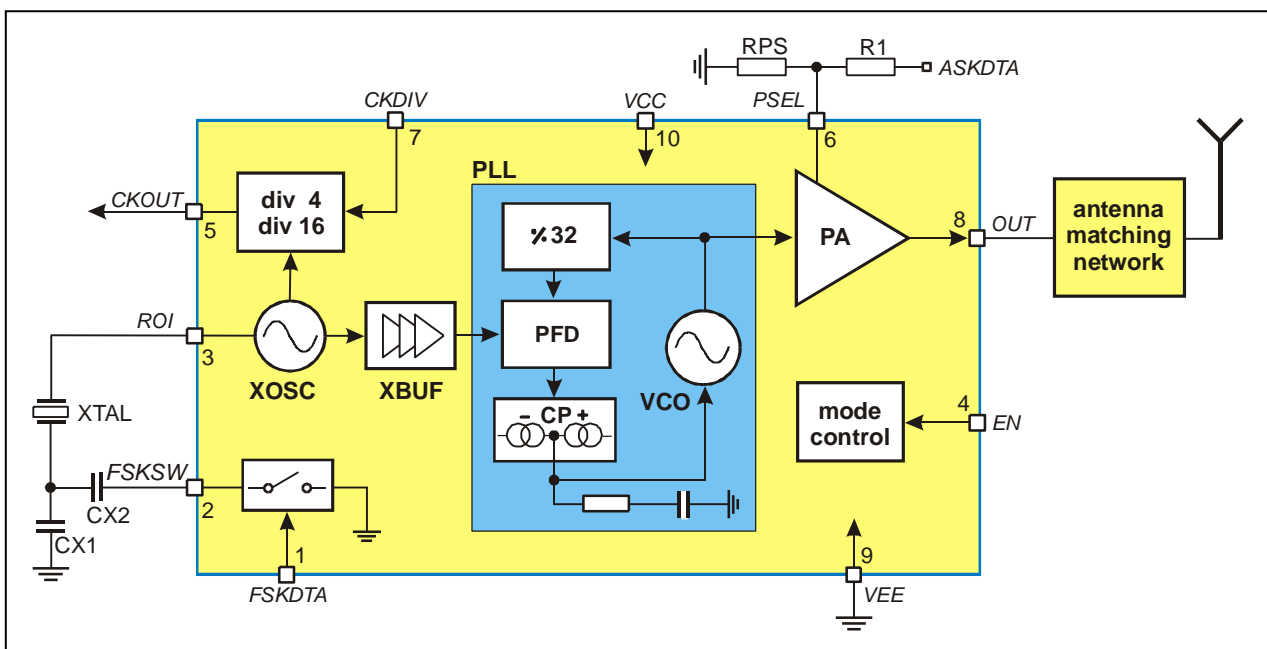

Fig. 1: Block diagram with external components
As depicted in Fig.1, the TH72016 transmitter consists of a fully integrated voltage-controlled oscillator (VCO), a divide-by-32 divider (div32), a phase-frequency detector (PFD) and a charge pump (CP). An internal loop filter determines the dynamic behavior of the PLL and suppresses reference spurious signals. A Colpitts crystal oscillator (XOSC) is used as the reference oscillator of a phase-locked loop (PLL) synthesizer. The VCO's output signal feeds the power amplifier (PA). The RF signal power P_{out} can be adjusted in four steps from $P_{out} = -12$ dBm to +10 dBm, either by changing the value of resistor RPS or by varying the voltage V_{PS} at pin PSEL. The open-collector output (OUT) can be used either to directly drive a loop antenna or to be matched to a 50ohm load. Bandgap biasing ensures stable operation of the IC at a power supply range of 1.95 V to 5.5 V.